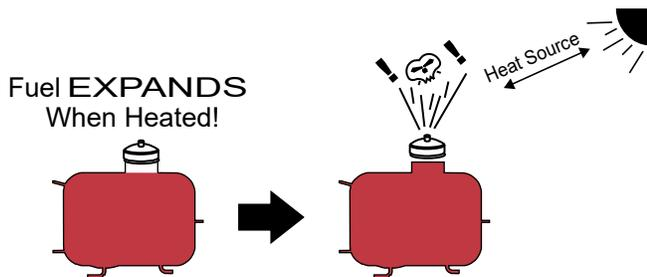

Figure 20. Fuel Expansion
**DO NOT OVERFILL** the fuel system. Leave room for fuel expansion. Fuel expands when heated (Figure 20).